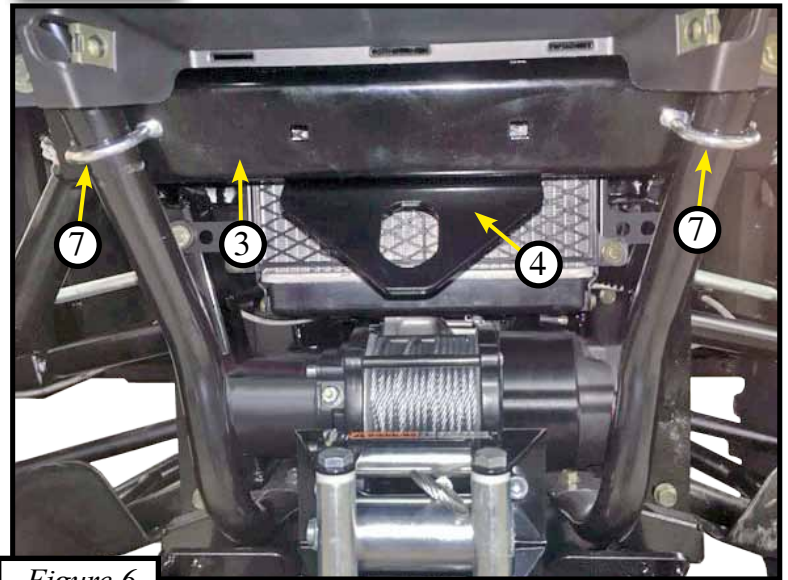

Figure 6
7. Attach the hook bracket (Item #4) to the bottom of the mounting channel using the two 3/8 carriage bolts. Shown in Figures 6 & 7.